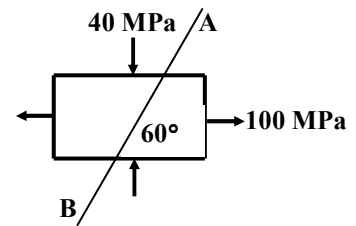

FIGURE-4 Q-4 (a) OR
- Q. 4 (a)** Find normal, tangential and resultant stress on the plane AB as shown in figure-4. **07**